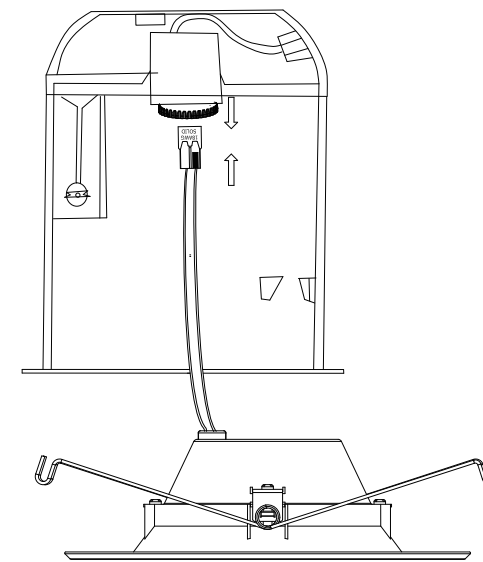

Figure 2
- STEP4:** Plug the connector of the retrofit kit into the connector of the socket adapter assembly. (Figure 2)